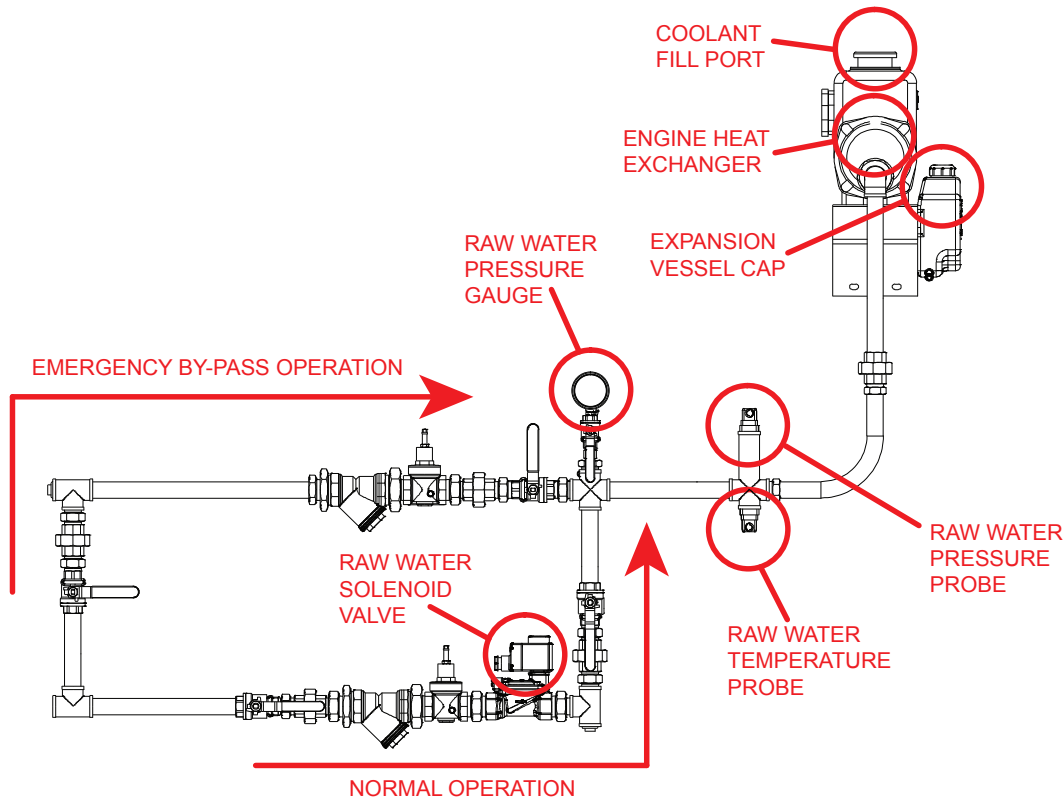

FIGURE 25 - EXTERNAL DIESEL ENGINE COOLING LOOP
- Remove the dipstick and wipe with a lint free cloth. See FIGURE 25.